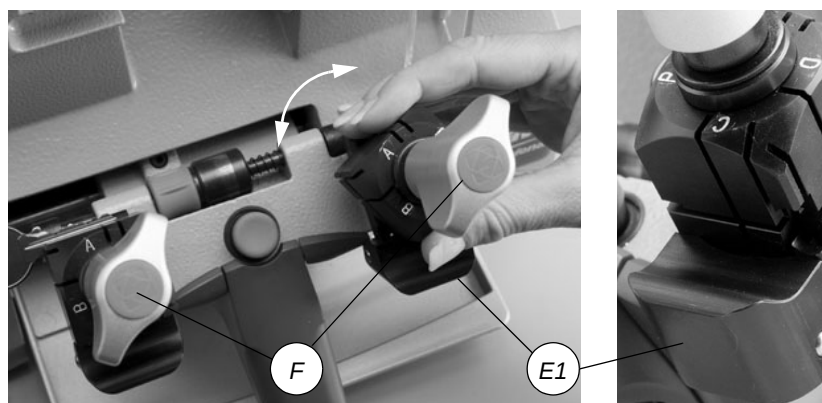

Fig. 21
With loosened handle (F) a light rotation of the clamp is sufficient (gripping by the 2 jaws) to turn it to the required side. Alignment is automatic and guaranteed by the mobile pressure device (E1) (fig.21).